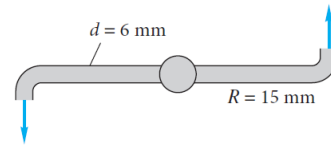

Fig. 3.21
3.21 The horizontal lawn sprinkler in Fig. 3.21 has a water flow rate of 15 L/min introduced vertically through the center. Estimate a) the retarding torque required to keep the arms from rotating